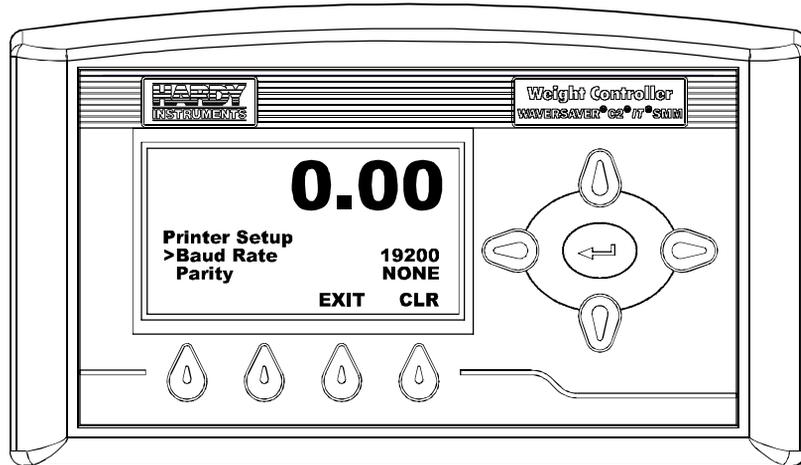

FIG. 92 PRINTER SETUP MENU/SELECTING BAUD RATE
- Step 5. Press the Down Arrow button until the cursor is front of Baud Rate. (See Fig. 92)